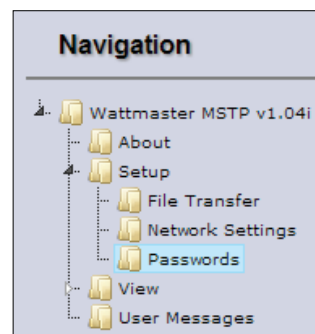

Figure 23: Setup - Passwords
1.) In the *Navigation Window* on the left of the *FS-GUI Screen*, click **<Setup>** and then click **<Passwords>**. See **Figure 23**. The *Passwords Window* will appear.